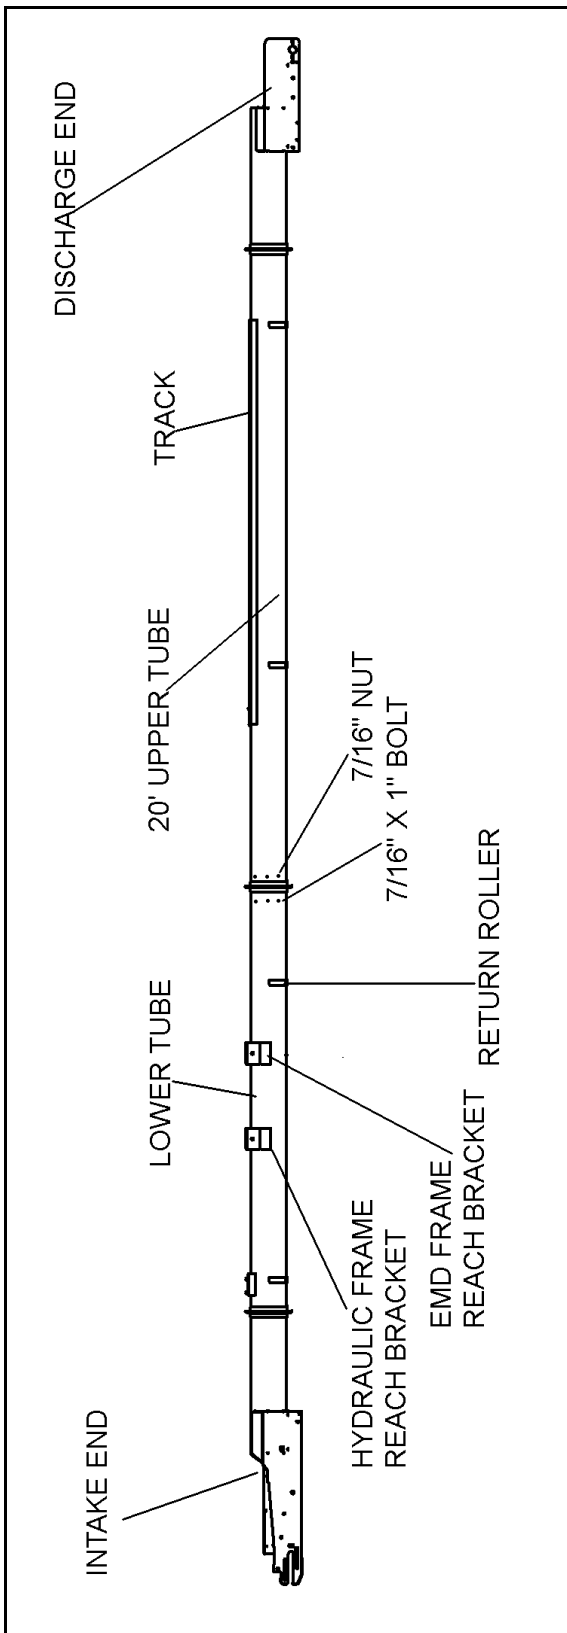

Figure 3.2
1. Lay out the tube sections on a series of benches or a large flat area. Position tubes so that the end containing the belt guide rollers are at opposite ends. (Figure 3.2).
- Note:** 2. *Upper tube (with track) and lower tube (with winch) should be aligned as shown in Figure 3.2. Align tubes, butt flange ends together, and secure using eight 7/16" x 1" bolts.*